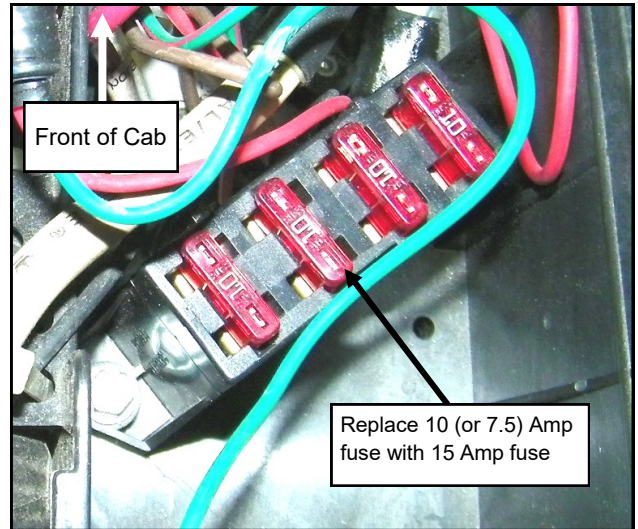

Fig. 5.3
- 5.3 Replace the 10 Amp fuse (or 7.5 if cab is installed) with supplied 15 Amp ATO/ATC fuse. (Figure 5.3) Reattach the cover onto the electronic component box. Tighten screw to 17 in./lbs. (1.9 Nm).